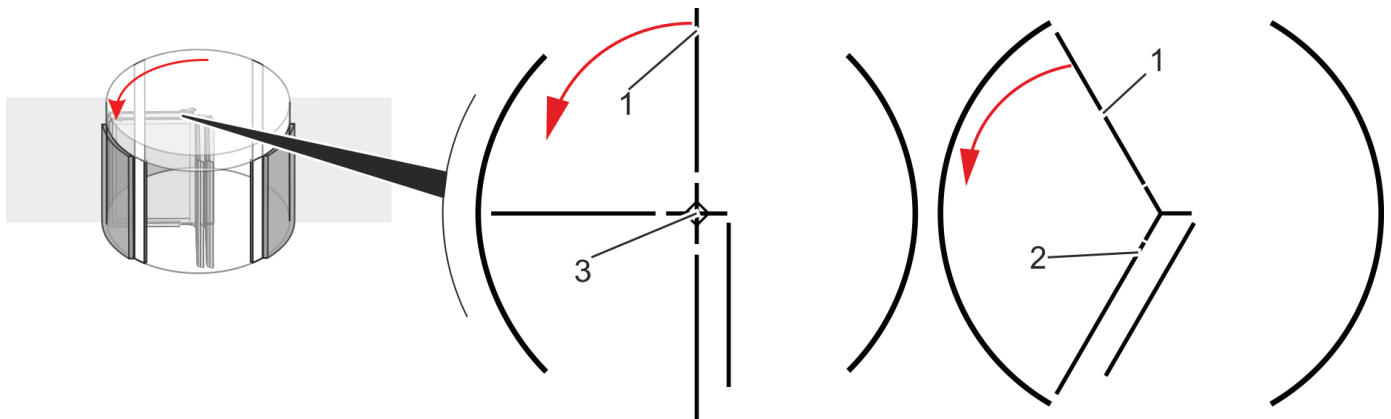

Fig. 15 Folding the next door wing to the side (four and three wings)
5. Have one person hold the lower door wing (Fig. 15/2) so that the next wing (Fig. 15/1) can be folded back.
6. Push the wing (Fig. 15/1) in short bursts.